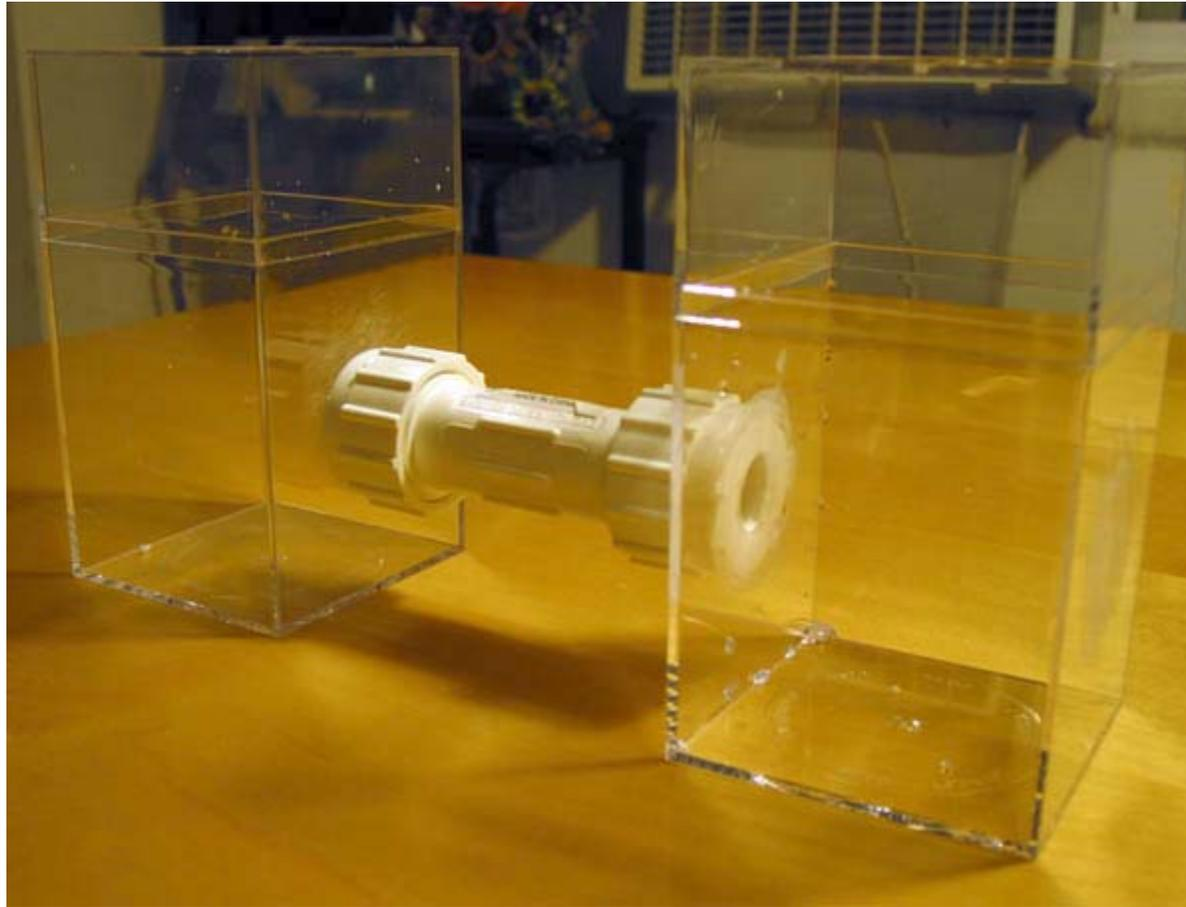

Figure 5. This is one set of a connected anode and cathode chamber.
13. Repeat steps 1-12 two more times. You should end this section with three sets of an anode and cathode chamber, like the one shown in Figure 5.